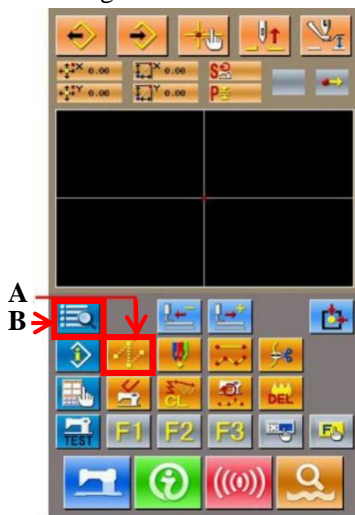
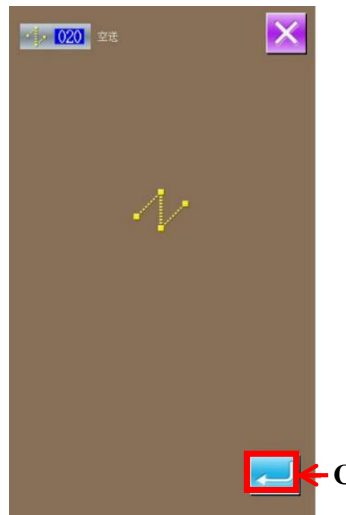

Figure 4.2.1 Editing Interface
Figure 4.2.2 Empty Feed Confirm
(1) Empty Feed: Click the Empty Feed button at A in the pattern editing interface (see Figure 4.2.1) to enter a confirmation interface (see Figure 4.2.2), and click the "OK" button at C to enter the empty feed editing Interface (Figure 4.2.3).
(2) Set the coordinate point of the second zero point: move the position by the arrow button at E in the air feed editing interface, the coordinate display of the cursor movement at D, the first column is the absolute coordinates, the second column is the relative coordinates. Now send the cursor empty to the coordinate point (0, 15.5), click the OK button at F to complete the setting of the first empty coordinate, and stay at the set point.
(3) Set the second zero point: click the function list button at position B in the pattern editing interface (see Figure 4.2.1), and click the "second zero point" function at position G in the function list (see Figure 4.2.4) Then click the "Confirm" button at H to display the confirmation interface (as shown in Figure 4.2.5), and then click the confirmation button at I to automatically jump to the pattern editing interface after completing the second zero point setting.